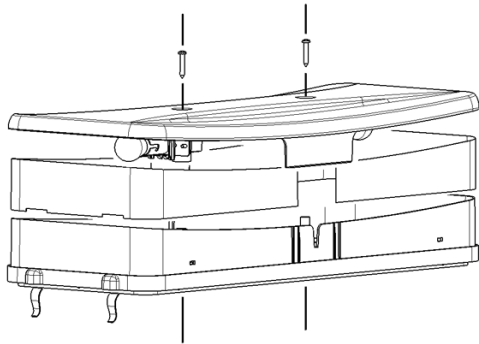

figure 9
- 1** Replacement of lighted top cover bulbs (see figure 9) :